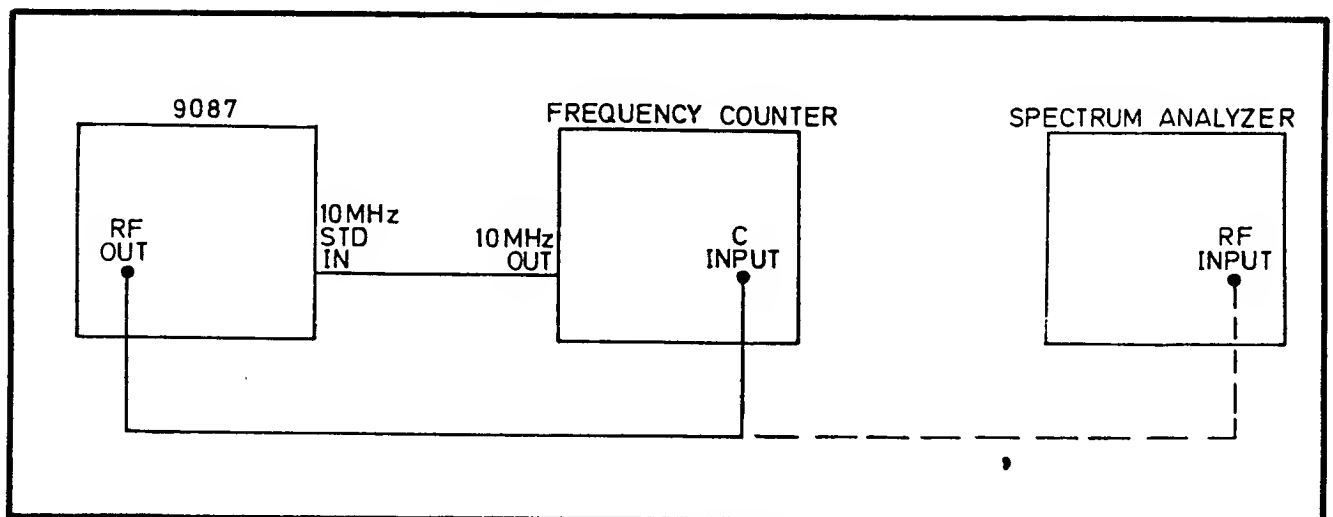

Fig 3.1 Functional Check Connections
3.6.1.3 Connect the 9087-under-test to the frequency counter as shown in Fig. 3.1. If a frequency counter other than the 9514 is used, it is permissible to use the frequency standard in the 9087 as the reference. In this case the frequency counter should be set to operate from an external standard input, which should be provided from the 10-MHz STD OUT socket of the 9087.